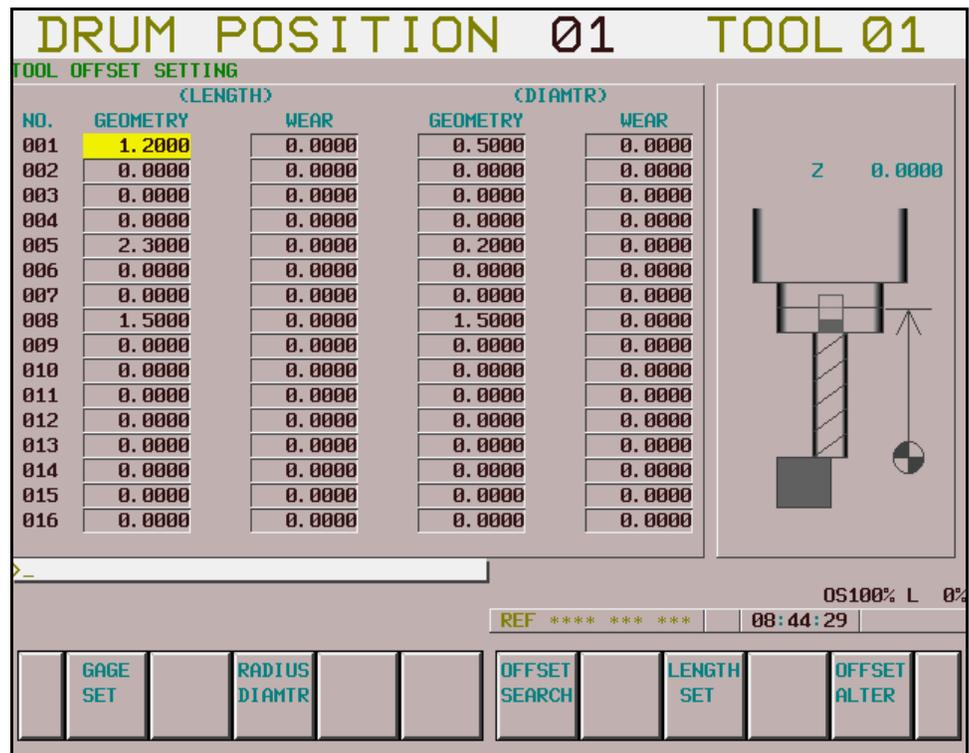

Figure 5-4: Tool Length Setting Screen
2. Press the LENGTH SET softkey - Figure 5-4: screen is displayed.